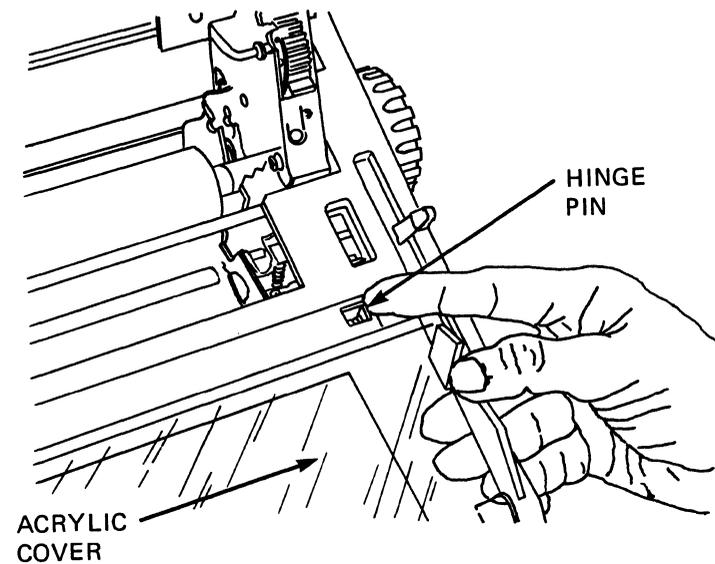

Figure 4-11 Acrylic Cover Removal
- c. Slide the right hinge pin to the left (see Figure 4-11).